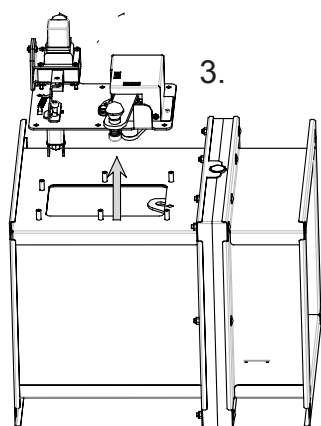

Fig. 14 Pull out the inspection lid
3. Remove the inspection lid (Fig. 14)